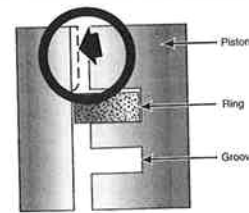

Figure 1
1. Remove the ridge from top of cylinder before removing piston so as not to damage the piston or ring lands. (Fig.1)